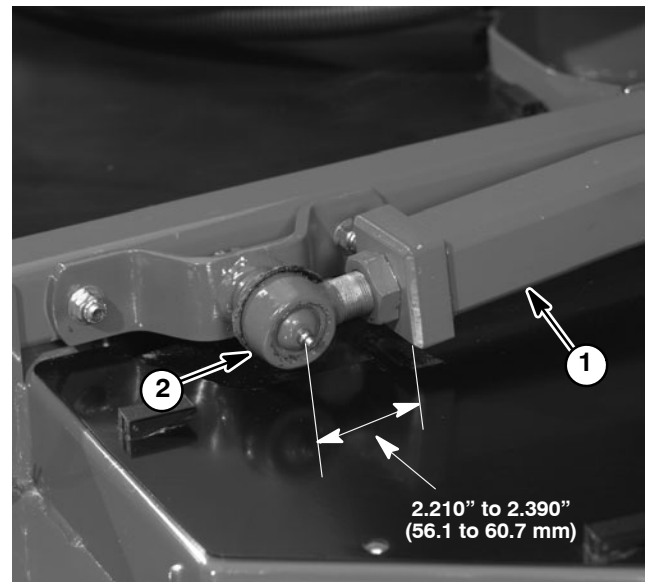

Figure 4
6. If removed, install ball joint to lift arm. Distance from end of lift arm to center of ball joint should be from **2.210" to 2.390" (56.1 to 60.7 mm)** (Fig. 4). Make sure that ball joint is horizontal and that stud is centered in ball joint. Torque ball joint jam nut from **150 to 175 ft-lb (203 to 237 N-m)**.